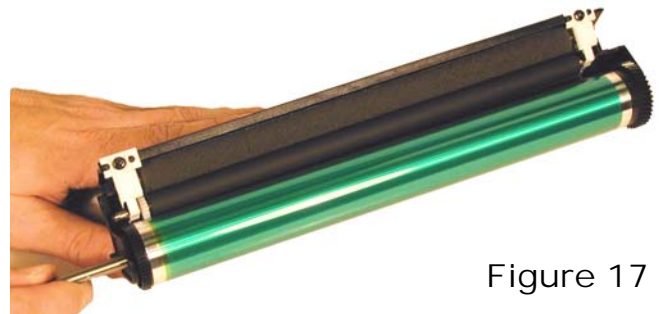

Figure 17
14) On the waste section, remove the drum axle by pulling it out from the small straight gear side. Note the conductive grease on the large helical gear side of the axle. See **Figure 17**